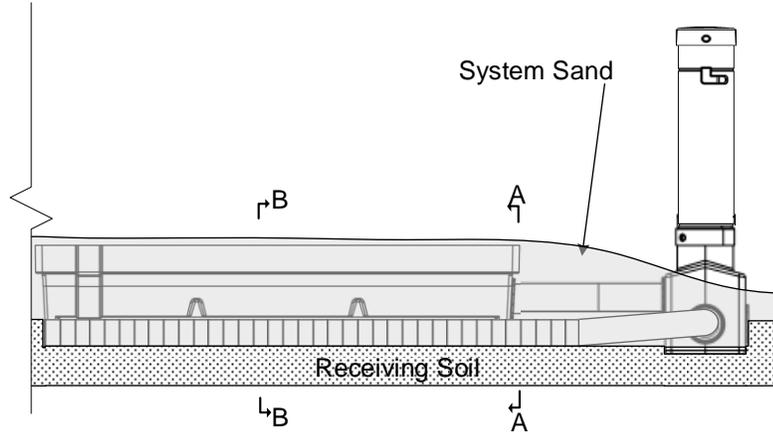
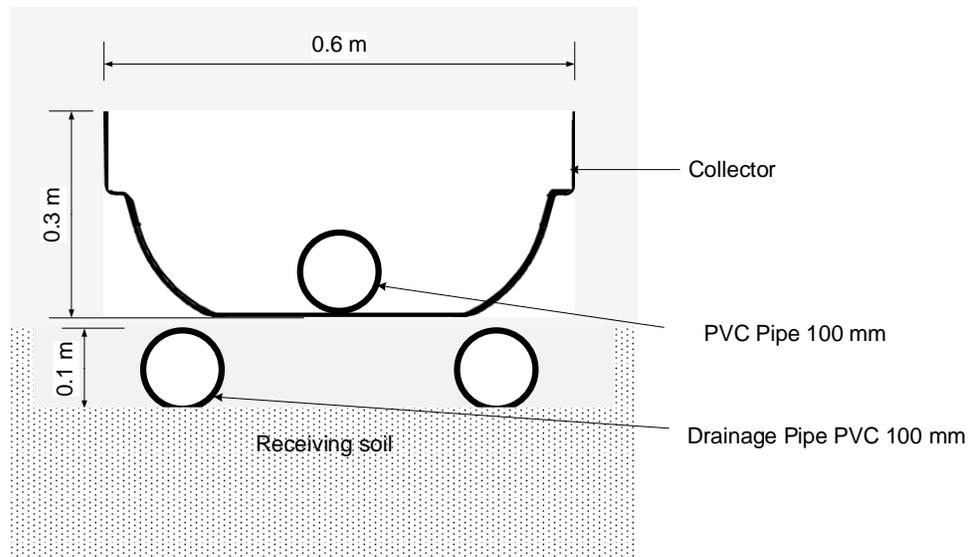

Figure 51 – Position of cross-sections
Figure 53 – Cross-section BB
- See Figure 51 through Figure 53 for other views of the sampling device once installed.